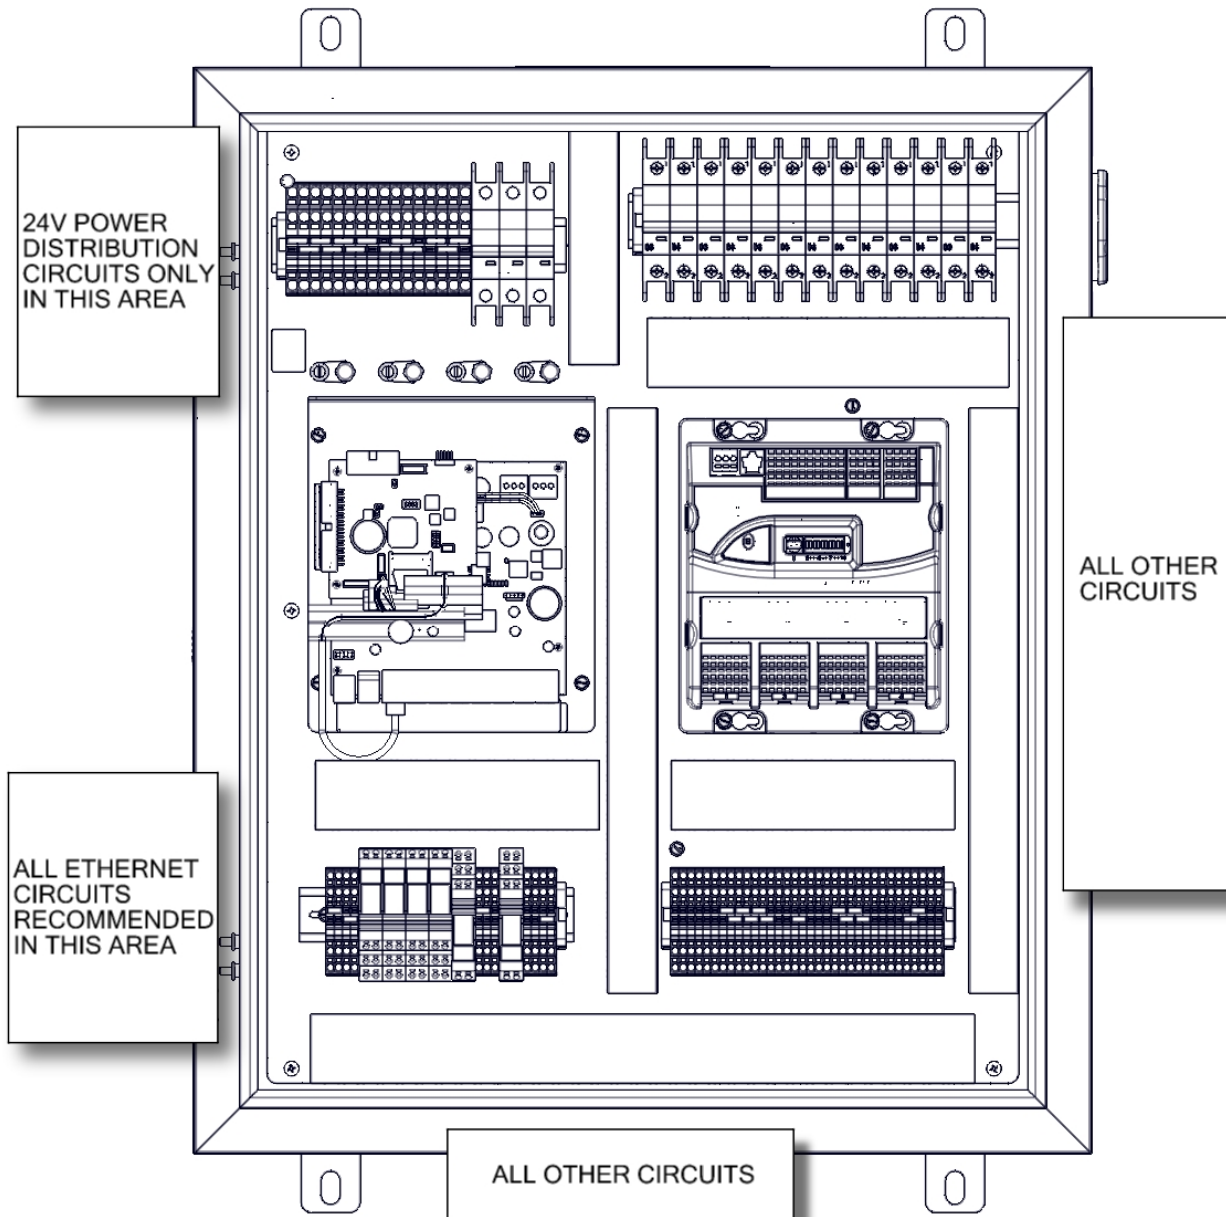
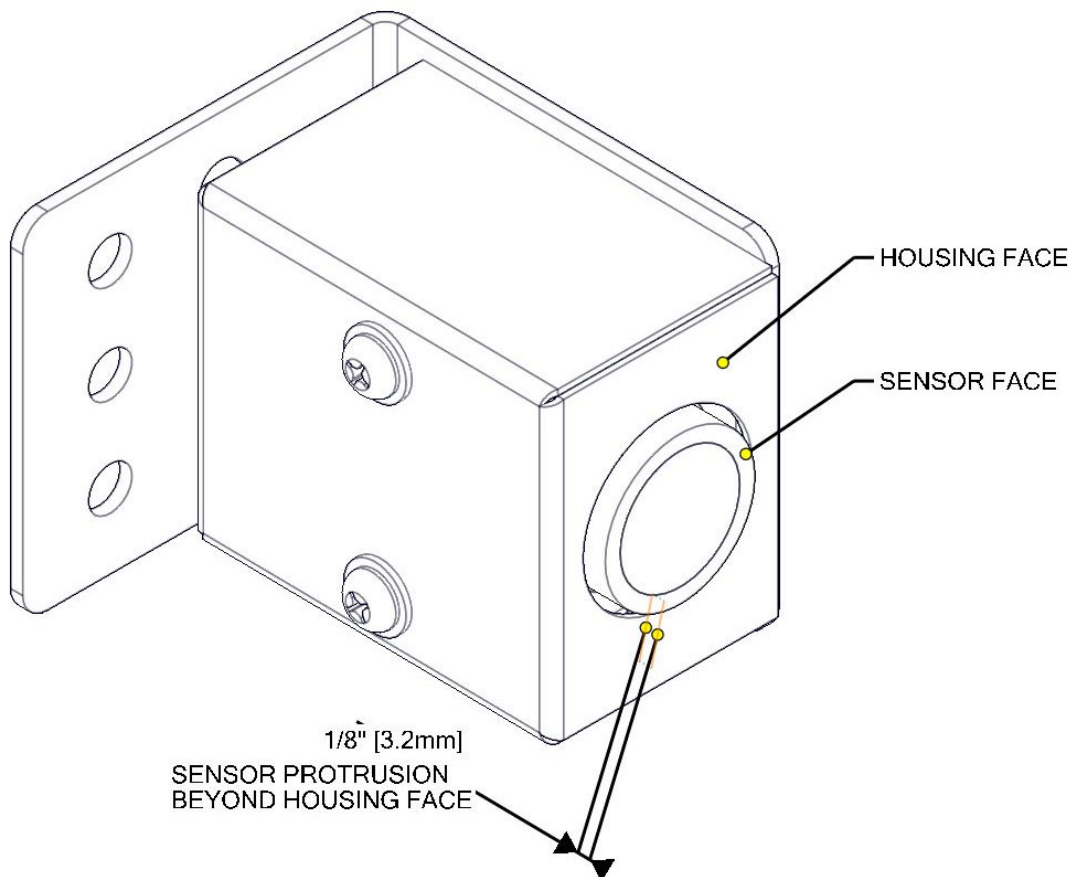
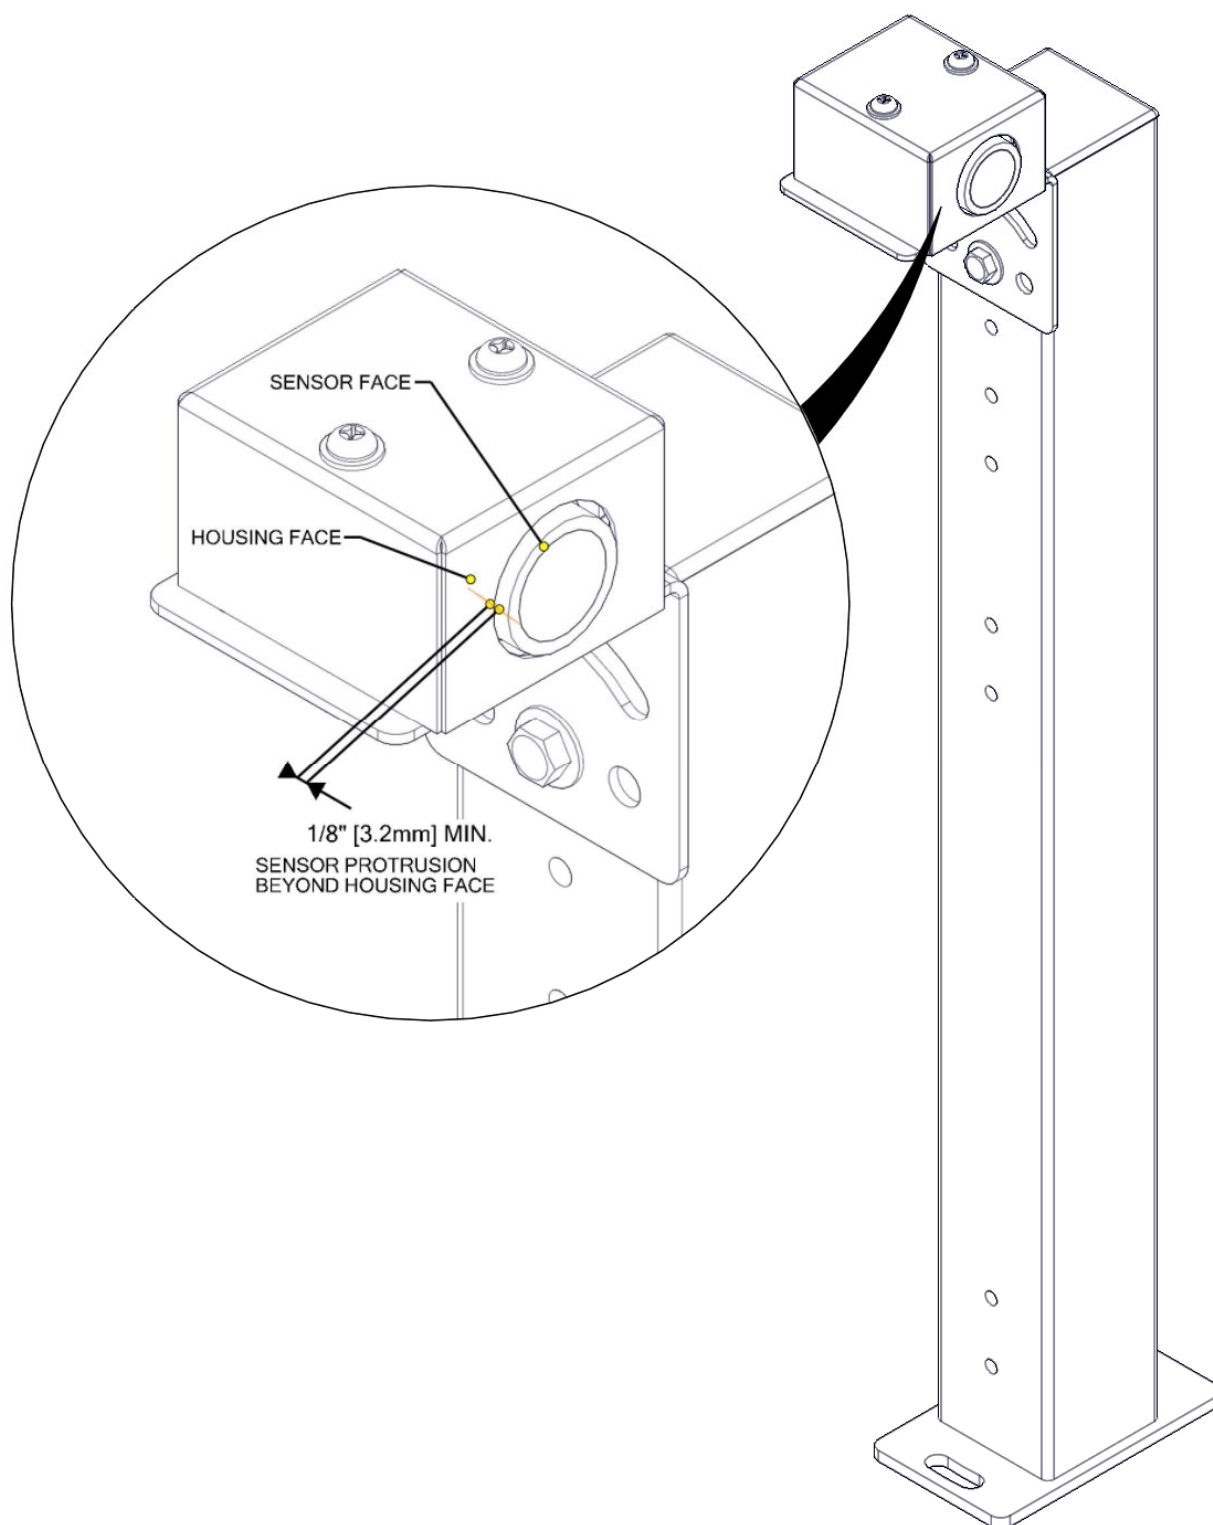

Figure 137 –Bay Box (Advanced Options Included)
Figure 138 – Wall Mounted Ultrasonic Sensor assembly
Figure 139 – Stand Mounted Ultrasonic Sensor Assembly
Side measurement ultrasonic sensors have two styles of mounting: Wall mounted, Figure 138, and Stand mounted Figure 139.
- The wall mounted sensor part numbers are 11410033 and 11410034. The 11410034 units includes the heat option, Figure 138.
- The stand mounted sensor part numbers are 11410035 and 11410036. The 11410036 units include the heat option, Figure 139.
- The system stop button box is to be mounted to the wall in the orientation shown in Figure 137 or Figure 138 so that the words and symbols are oriented properly.